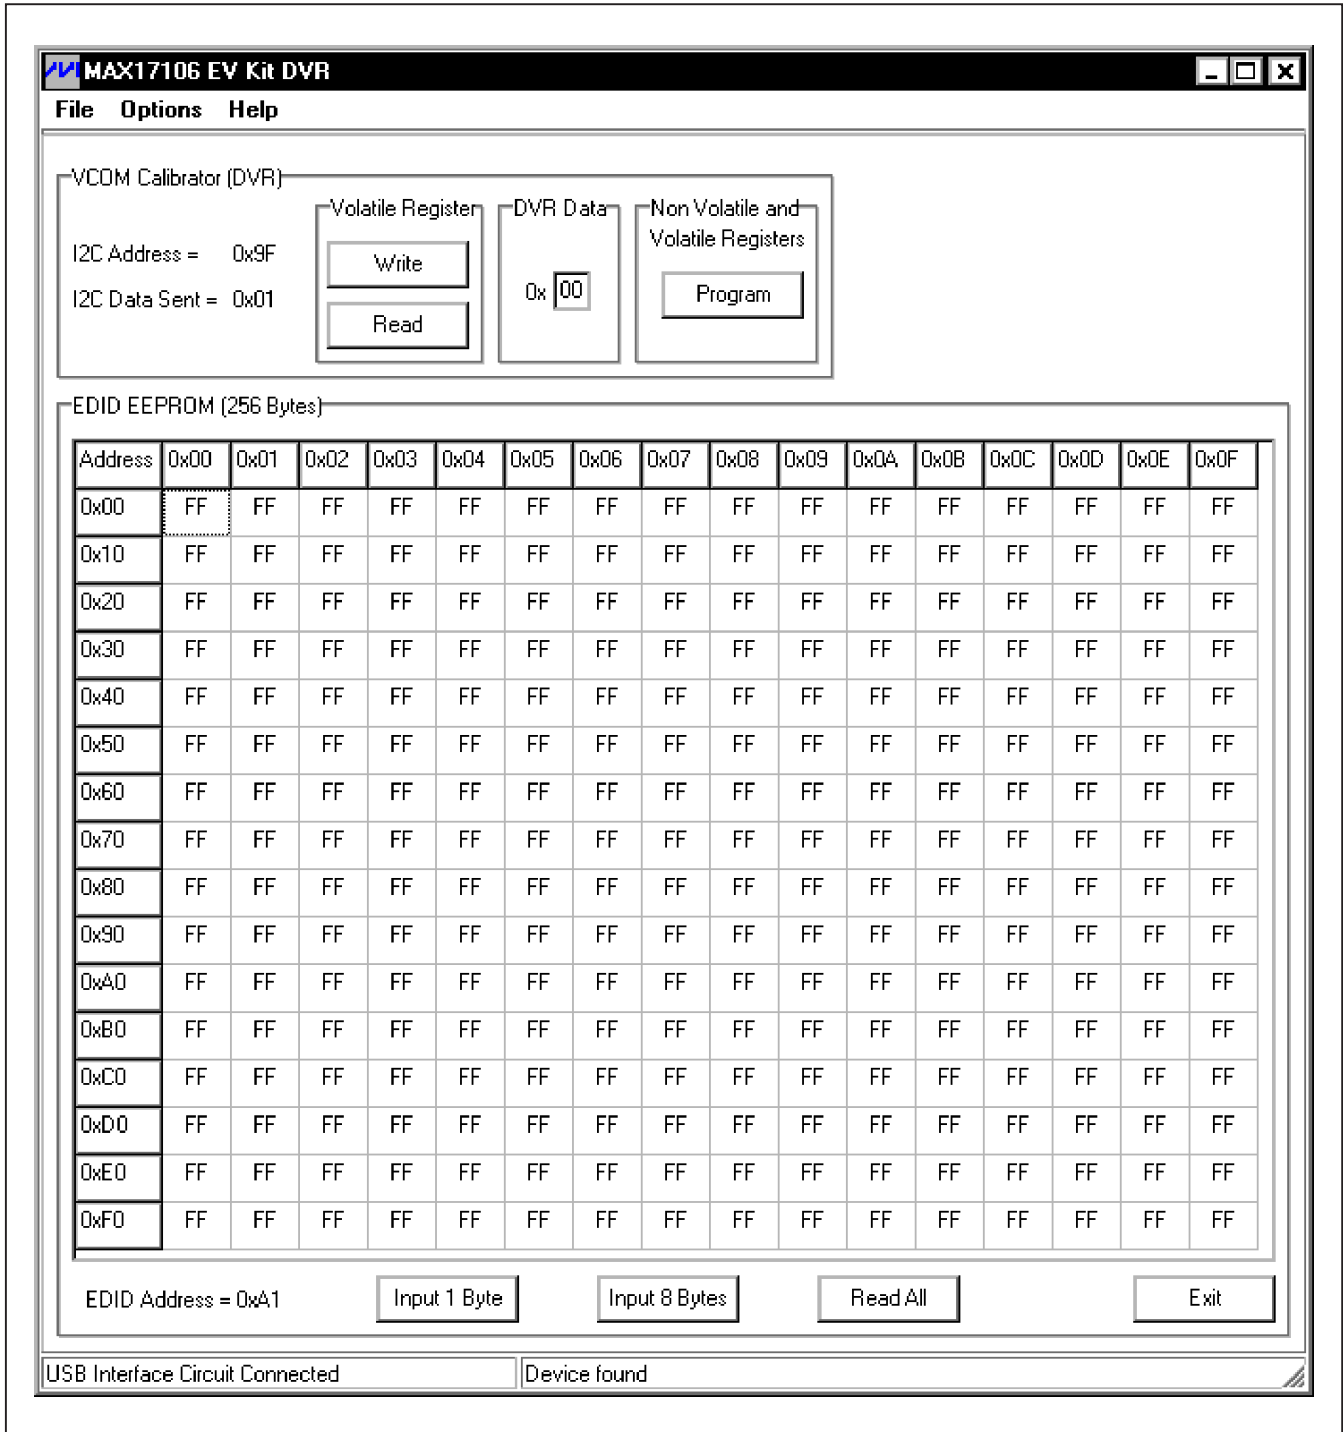
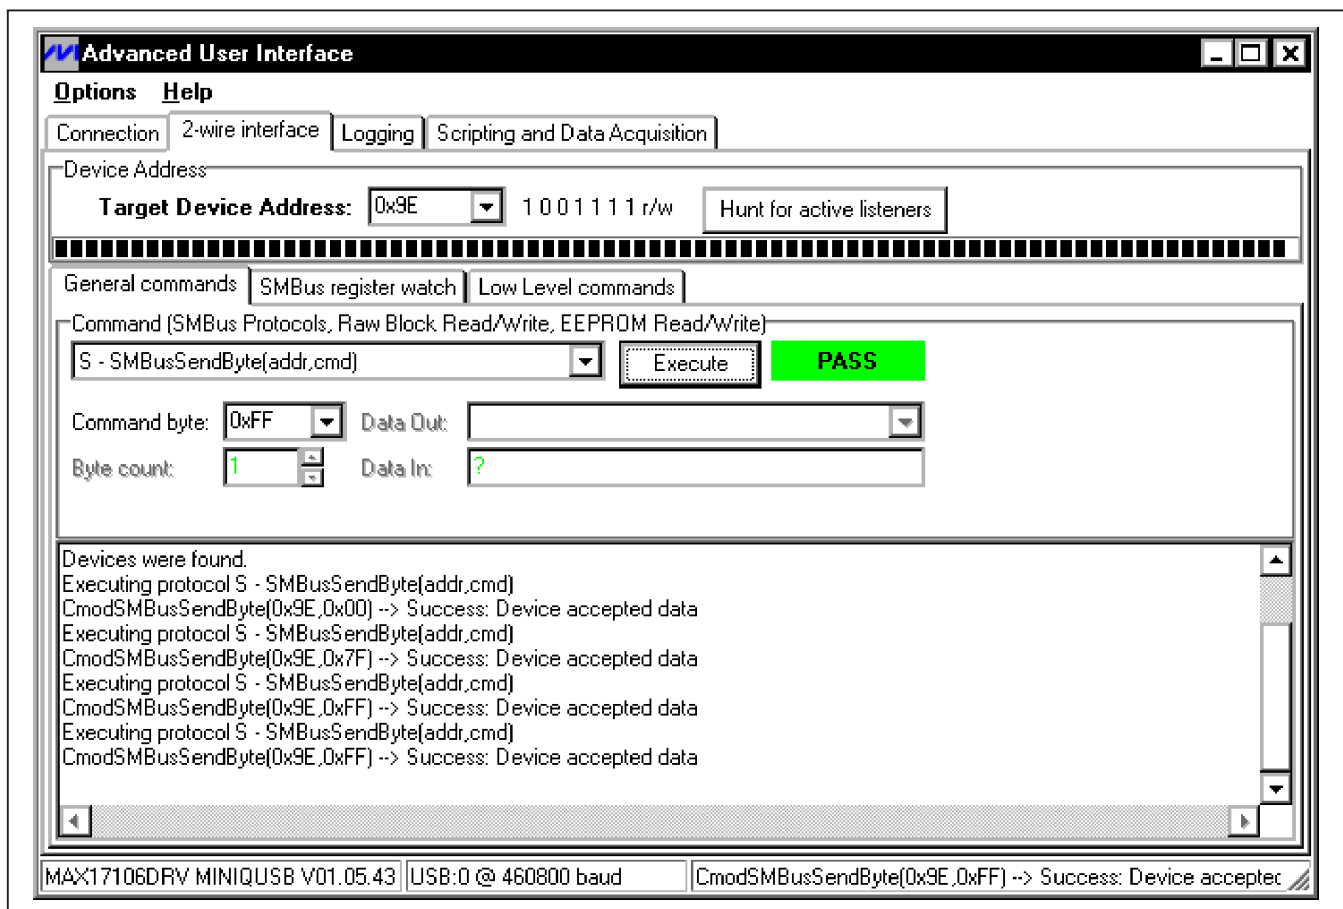

Figure 1. MAX17106 EV Kit DVR Software Main Window
Figure 8. Simple Low-Level 2-Wire Interface
- 18) Observe as the programs automatically detect the I²C addresses in the MAX17106 and start the programs. After successful connection, the EV kit software main windows (Figures 1 and 2, respectively) appear in the top-left corner of the PC monitors.
The MAX17106 EV kit DVR software GUI, shown in Figure 1, is the MAX17106 EV kit DVR software's main window. This window provides a convenient means to control the MAX17106 VCOM calibrator and EDID EEPROM. Use the mouse or press the Tab key to navigate through the GUI controls. The correct I²C communication is generated to update the MAX17106 internal memory registers when any of these controls are executed.
The MAX17106 EV kit DVR software's main window (Figure 1) divides the EV kit software functions into two group boxes, **VCOM Calibrator (DVR)** and **EDID EEPROM (256 Bytes)**. The **VCOM Calibrator (DVR)** group box controls the MAX17106 VCOM1 on the EV kit. The VCOM2 and VCOM3 outputs on the EV kit are not controlled by the MAX17106 VCOM calibrator.
There are two methods for communicating with the MAX17106 EV kit, through the normal user-interface panel (Figures 1 and 2), or by using low-level SMBus™ commands available through a 2-wire interface diagnostic tool. Activate the **2-Wire Interface** (Figure 8) utility from the main program's **Options | Interface (Advanced Users)** main menu bar. A window is displayed that allows I²C operations, such as **SMBusReceiveByte** and **SMBusSendByte**.
Note: The I²C dialog boxes accept numeric data in binary, decimal, or hexadecimal. Hexadecimal numbers must be prefixed by \$ or 0x. Binary numbers must be exactly eight binary digits. See Figure 8 for an example of this tool. Figure 8 shows a simple SMBus send-byte operation using the included 2-wire interface diagnostics tool. In this example, the software is sending data (Cmd)